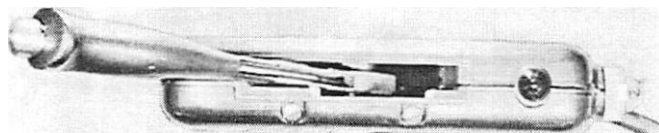

Figure 2. Control Station, Showing Detents
3. Move detent plate in control box up against front side of control lever and lock in place with screw provided (Figure 2).